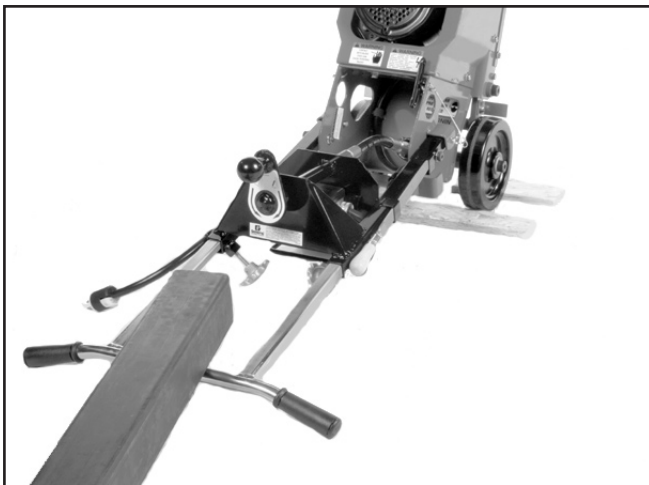

FIGURE 10
4) Tilt the Floor Stripper back until the operator handle comes in contact with the surface. The Floor Stripper may not be in a stable position in this configuration. To minimize the possibility of property damage and/or personal injury, properly secure an appropriate weight to the handle for added stability. Other means can also be utilized to support the frame and provide proper machine stability. Appropriate wheel chocks are also recommended. FIGURE 10.